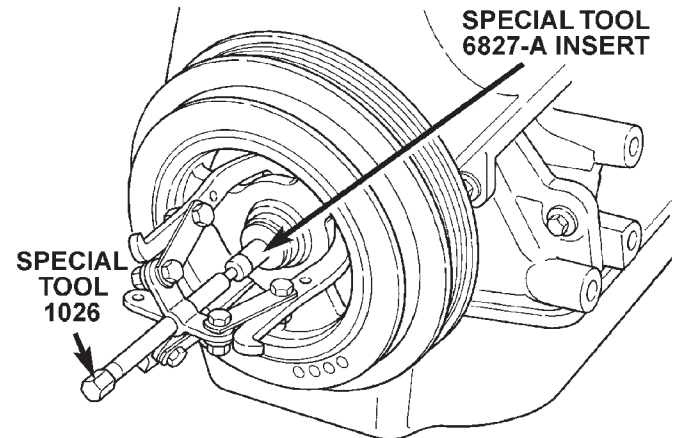

Fig. 91 Crankshaft Damper—Removal
(1) Using Special Tool 1026 and Insert 6827-A, remove crankshaft damper (Fig. 91).